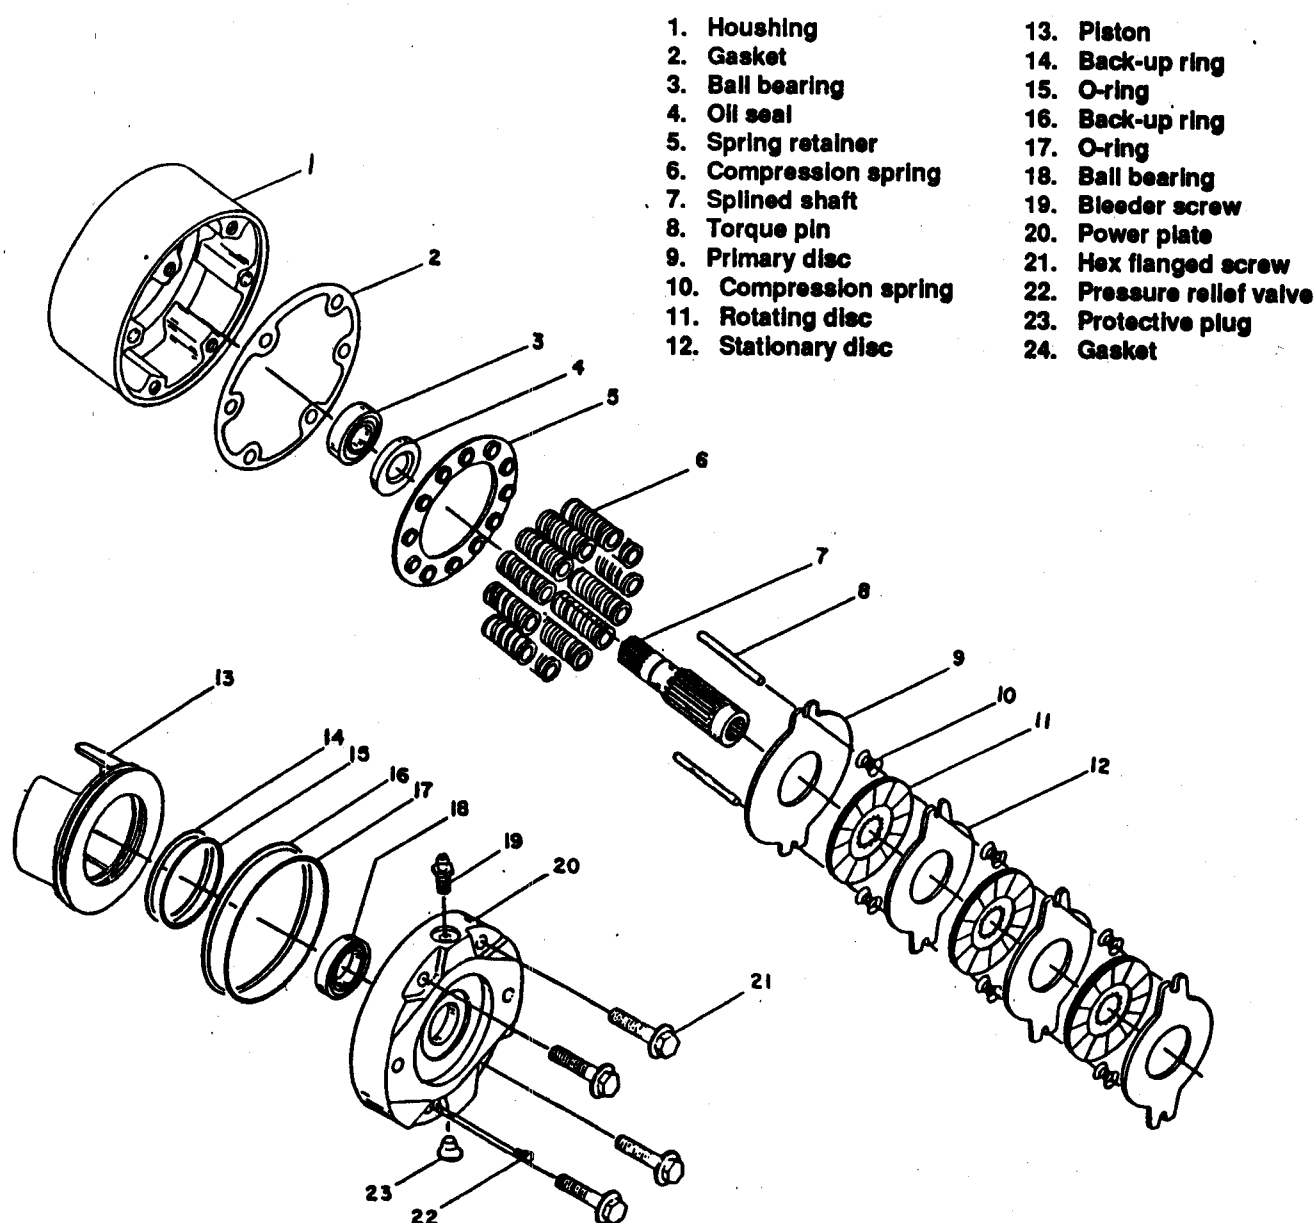
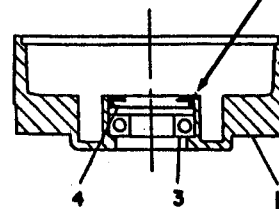

Figure 27. Fallsafe Brake Assembly
Figure 28. Installation of Seal in Housing
See Figure 27.
2. **IMPORTANT:** There may be more parts in a service kit than your brake requires. Check parts list carefully for the exact quantity. In the case of springs, space the required quantity equally. See Figure 27.
5. Assemble Piston (13) into Power Plate (20) using a shop press, being careful not to damage the O-rings or the Teflon backup rings. Visually align the center of the cutouts in Piston (13) with Torque Pin (8) holes in Power Plate (20). Avoid pushing the piston all the way to the bottom of the cylinder in the power plate. Generally, try to keep the top surface of the piston flush to 1/8" below the machined surface of the power plate.
8. Press Bearing (3) into Housing (1). Bearing must be seated against shoulder in housing.
9. Before installing Seal (4), lubricate the lip of the seal with system hydraulic fluid or other suitable lubricant. Use a shop press to install Seal (4). Face the lip of the seal toward the outside of the brake in order to keep the gear box oil or other external contaminants out of the brake.
10. Install Seal (4) into housing by pressing evenly around O.D. of the seal. Use care to avoid cocking. The back of the seal must be installed flush to surface of housing. See Figure 28.